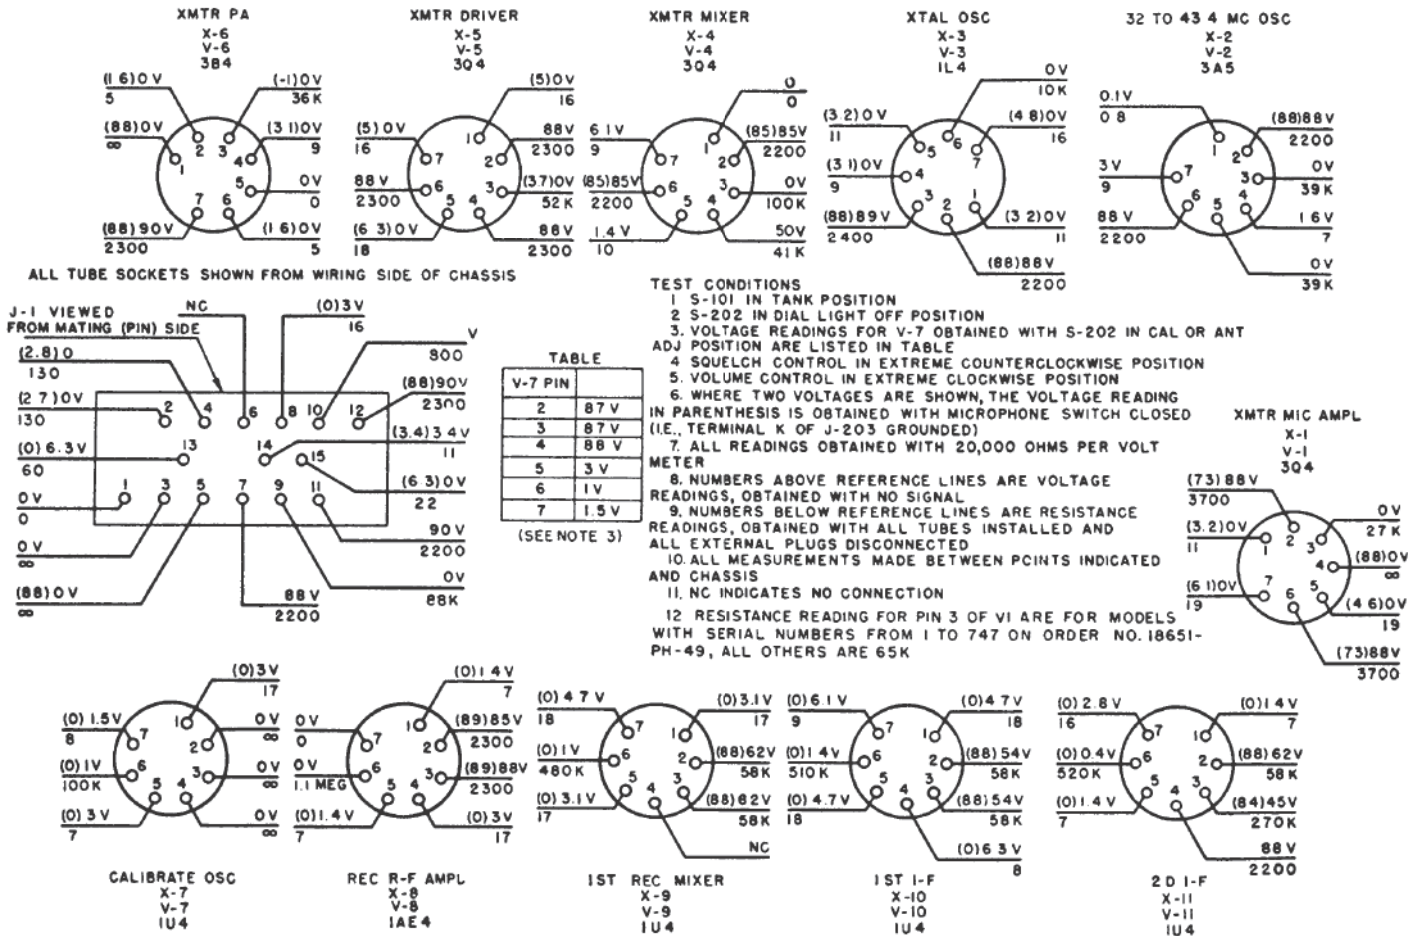

Figure 37. Resistance and voltage data, RF chassis (RT-70/GRC).
- (1) Turn the power supply off and pull the tube out of its socket.
- (2) Test the tube by means of a tube checker. If the tube is defective, replace it with a good one. If a tube checker is not available, substitute a tube known to be good for the suspected one.
- (3) Turn on the power and measure the test socket voltages. Refer to paragraph 59 and to figures 37 through 40. Replace any defective components found by this procedure.
- (4) Realign the receiver circuits, particularly if the measurements show consistently low gains or after a tuned stage has been extensively repaired.
- (5) If alinement fails to improve the condition, investigate the possibility of mechanical defects, such as loose coupling to a capacitor shaft, broken tuning slugs, or defective trimmer capacitors.
- (6) Measure the resistances at the tube socket of the defective stage. Refer to paragraph 59 and to figures 37 through 40 for the points of measurement and the required reading. The information given is merely a guide and should suggest other tests, measurements, and procedures for localizing the trouble to defective parts or wiring. Replace any component found to be defective.
a. Make the pertinent measurements (figs. 37-40) from the socket terminal to ground. Carefully read the notes on the figure. These notes define the test conditions under which the indicated readings have been obtained. If, for some reason, a departure from the indicated test conditions is desired, the test results must be reinterpreted accordingly. This may be done by reference to the schematic diagrams (figs. 53 and 54) and to the applicable functional diagrams in chapter 2. The required resistance reading are shown below the guide line from the socket terminal. It is necessary to make all measurements shown in figures 37 through 40, but only those indicated at the tube sockets associated with the stage or circuit found to be defective by the signal substitution checks (par. 57) and the other trouble sectionalization checks.
a. Measurements With 20,000-ohms-per-volt Meter. Make the pertinent dc voltage measurements indicated in figures 37 and 39 (for RT-70/GRC's) or in figures 38 and 40 (for RT-70A/GRC's). These measurements serve to locate defects which are not readily determined by the resistance measurements (par. 58); that is, defective capacitors, partially shorted transformer and coil windings, etc. For these measurements, make sure that all tubes and crystals are seated firmly in their sockets, and apply power to the unit. All voltage measurements shown in the figures are made to ground. Refer to the schematic diagrams (figs. 53 and 54) to identify the circuit components involved in a particular measurement. Note especially those circuits which are turned off or on by the operation of the microphone push-to-talk button, or by the grounding of terminal K of J203 (par. 36). The required readings are shown above the guide lines from the socket terminals. In some cases, two values of voltages are shown. Those within the parentheses are voltages obtained when the push-to-talk button is operated. Those not in parentheses are obtained when the button is unoperated or when terminal K of J203 or terminal F of J202 is not grounded. The values shown have been obtained with a 20,000-ohms per volt meter. If a meter with another internal resistance is used, the values must be interpreted
b. Measurements with Vacuum Tube Voltmeter. The data given in the following chart supplement the measurements indicated in Figures 37 through 40. They also supplement (and in some cases repeat) the data given in the trouble sectionalization charts (pars. 54 and 56). Readings are obtained with Electronic Multimeter TS-505/U (M1). The points listed are such that the readings obtained with a low impedance voltmeter lose significance because of the shunting effect of the meter. Except where otherwise stated, all measurements are made between the test point indicated in the chart and chassis.
- (1) *Measurements at receiver test points.* For the measurements listed below, use Electronic Multimeter TS-505/U. Turn the SQUELCH control to the extreme counter-